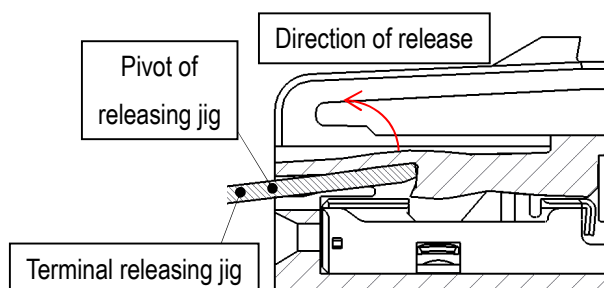

Fig40. Terminal releasing jig in operation
- ③ Push the releasing jig fully into the lance, then lever up the lance as shown in Fig.40